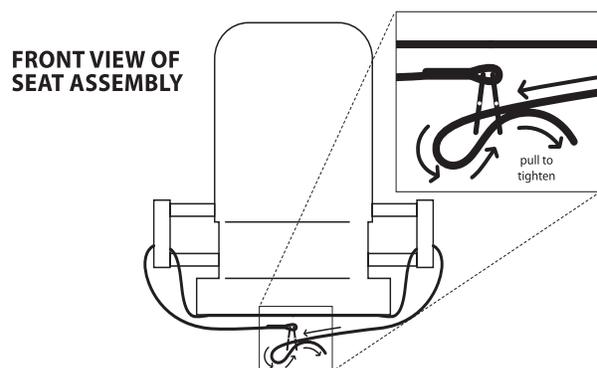

Figure 4
4. Attach padded seat (48103) by feeding straps around the lower portion of seat frame. Feed the long strap through both metal tri-slides that are sewn to opposite side of strap. Wrap the long strap back around one tri-slide and through the second tri-slide and pull tight. **SEE FIGURE 4.** Repeat the same operation for the other seat strap. Adjust as needed to achieve desirable seat height. Excess strap can be tucked away using provided Velcro tabs under the seat.
5. Attach (2) provided 9" camo arm pads (48736) to upper portion of seat frame weldment by wrapping around tubing and attaching Velcro together.